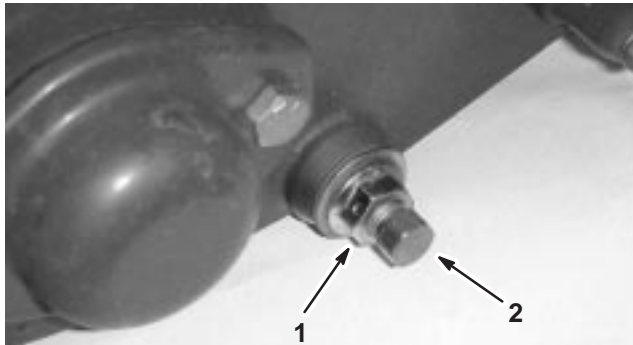

Figure 49
3. On each side of the machine, loosen the jam nut securing the bedbar bolt (Fig. 49).
4. Remove each bedbar bolt allowing bedbar to be pulled downward and removed from machine. Account for 2 nylon and 2 stamped steel washers on each end of bedbar (Fig. 49).